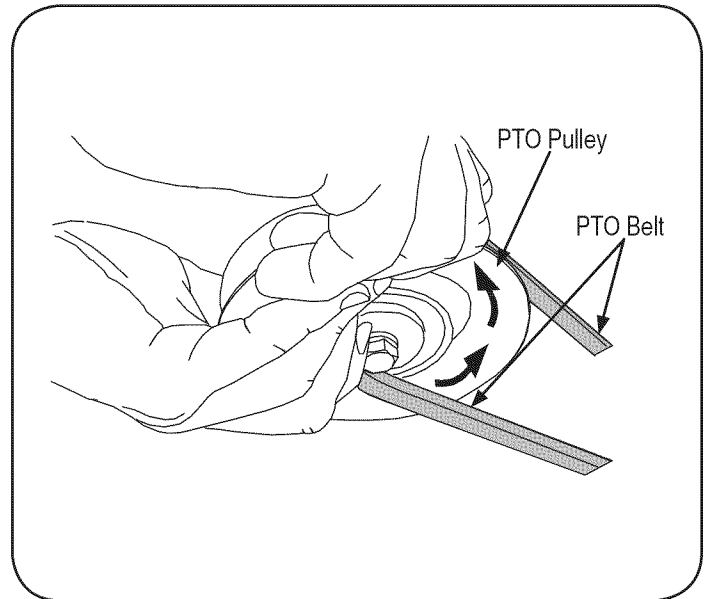

Figure 25
8. While holding the belt and pulley together, rotate the pulley to the left. Continue holding and rotating the pulley and belt until the belt is fully rolled into the PTO pulley. See Figure 25.